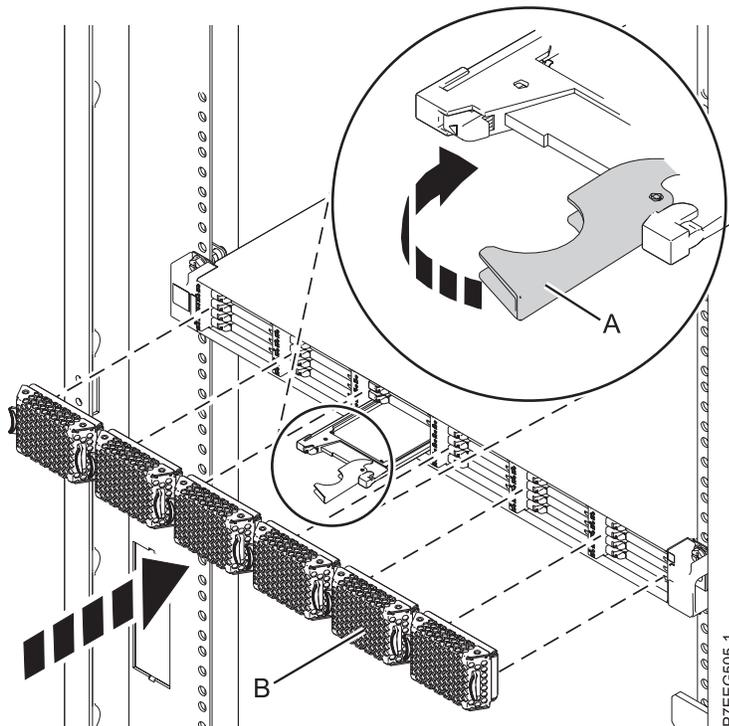

Figure 35. Replacing a solid-state drive in the 58/88 PCIe storage enclosure.
3. Rotate the handle (A) to the locked position, as shown in Figure 35.
4. Install the bezel (B).